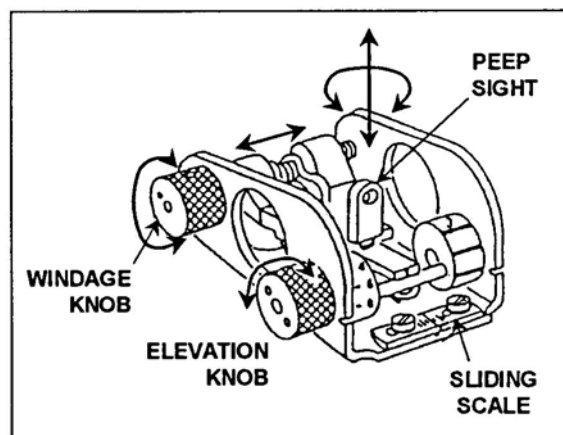

Figure 1. M249 Rear Sight Assembly
- a. Elevation: Using the elevation knob, index the known range (300 meters) to the target. Center the peep sight by rotating it clockwise (right) as far as it will go, then rotate it counterclockwise (left) 5 clicks (Figures 1 and 2).
NOTE: The elevation range scale wheel has range settings from 300 to 1,000 meters. The even numbered range settings are on the left side of the scale wheel and the odd numbered range settings are on the right (Figures 1 and 2).
- b. Windage. Rotate the windage knob toward the muzzle until the peep sight is completely to the right, then rotate the windage knob toward the buttstock 12 clicks to the left. This will place the peep sight in the approximate center of the sight (Figures 1 and 2).